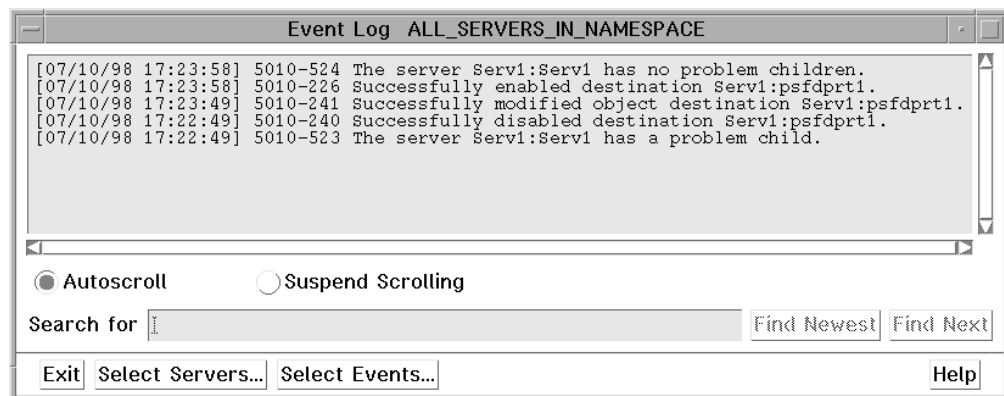

Figure 20. The Event Log Window
- When Infoprint assigns a job to a queue, it makes an entry in the event log, as shown in Figure 20. The job icon appears in the well for the queue and in the Queue/Jobs window. As Infoprint processes the job, it makes an entry in the event log, and the job icon changes to a job processing icon. When the job completes, Infoprint makes an entry in the event log. Infoprint deletes the icon for the job or moves the icon to the retained jobs folder if the job has a non-zero retention period.